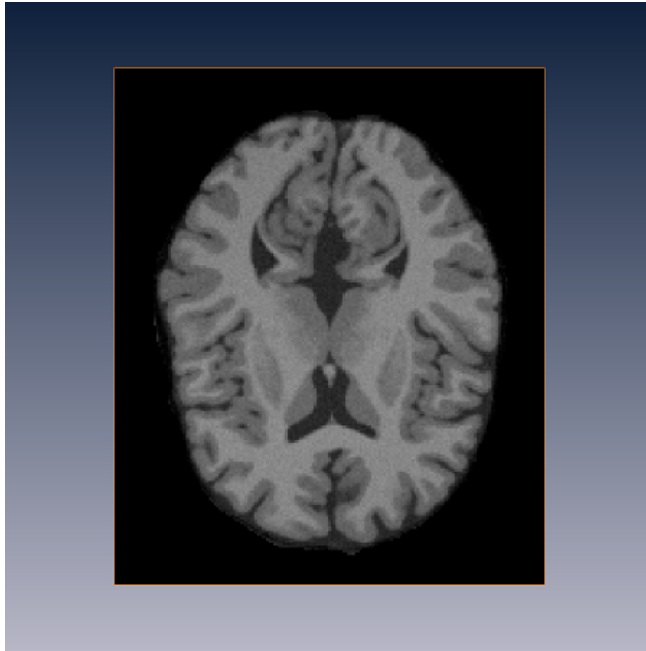

Figure 13.6: Central axial slice of the skull stripped reference data set
- In the *Expr.:* field of *Arithmetic* enter $A * (B > 0)$ and click *Apply*. Attach an *OrthoSlice* to the *Result* object. The display should look similar to Fig. 13.6.